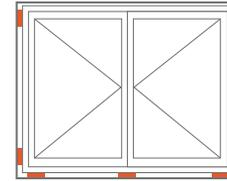

fig. 12 - Casement window (interior view)
- b. Shimming the window: **The sill of the window must be supported in a straight and level position**, with the shims at all locations where the jambs, intermediate jamb or stiles meet the sill. Select and apply shims on the sill as described above. For multiple wide twin, triple mulled units there needs to be a shim under each mullion, intermediate jamb and the center stiles of the slider. Check mulls for level. The number of shims will vary depending on the overall size of the window. (**figs. 12, 13, 14 & 15**)